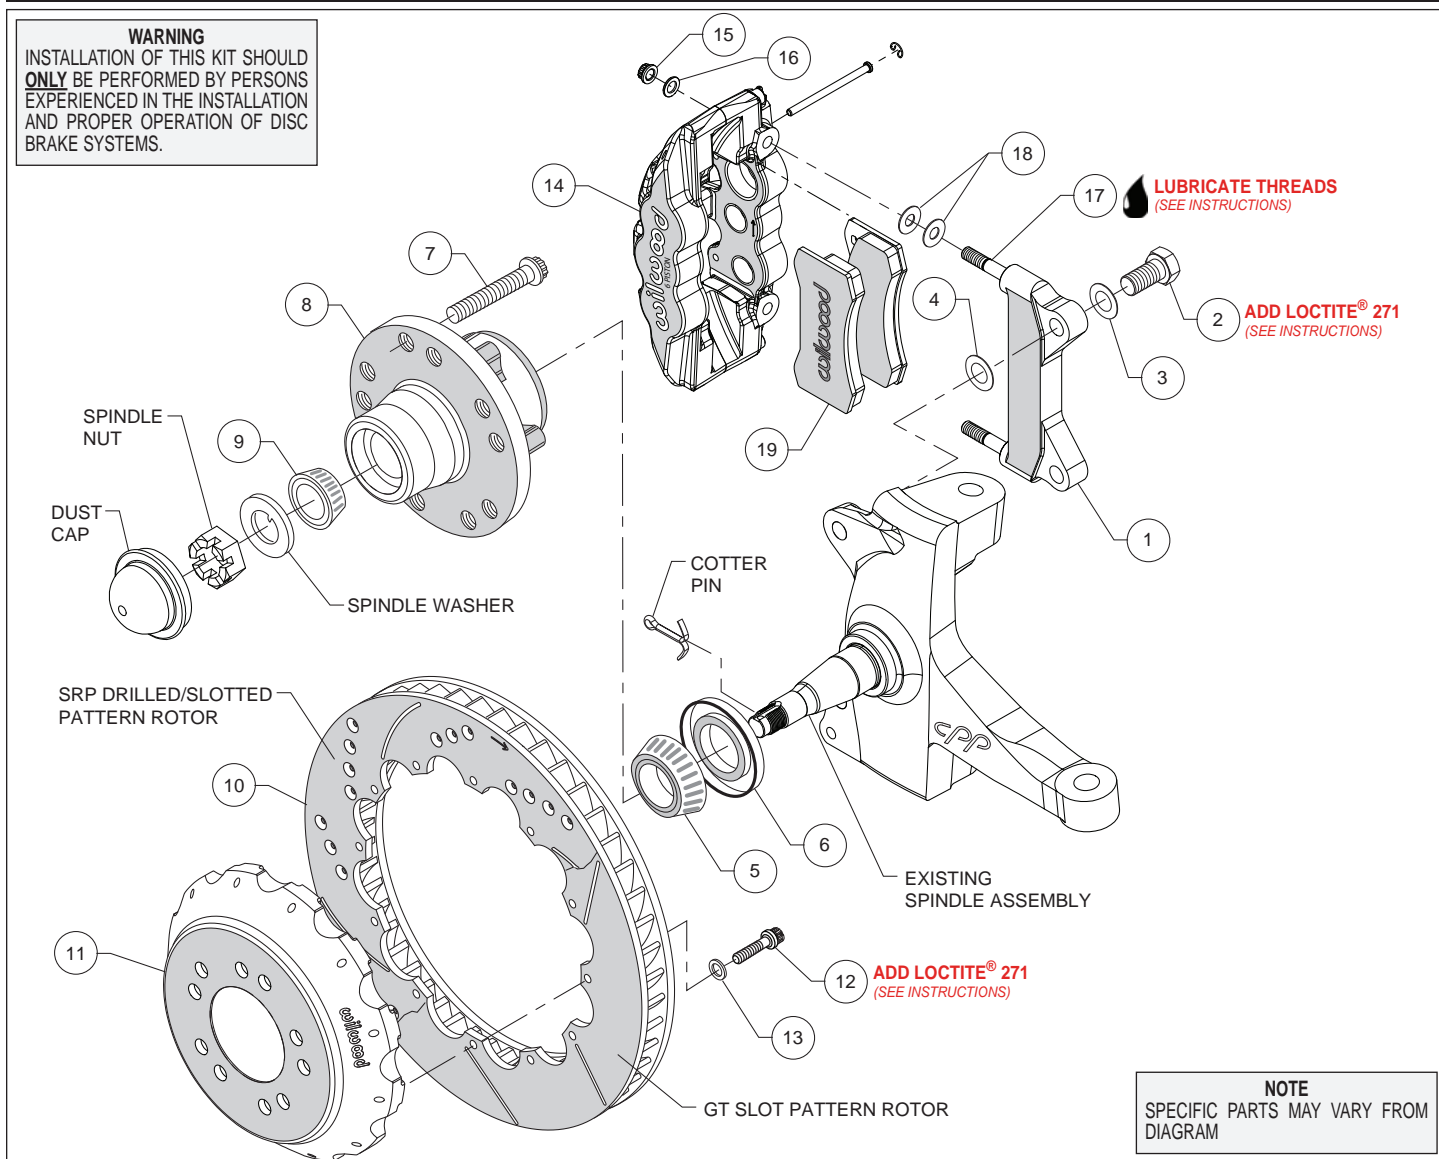
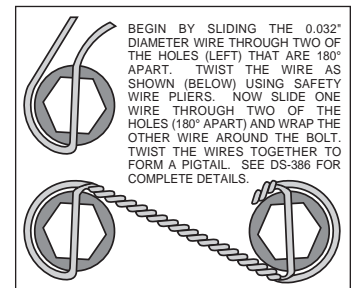

Figure 1. Typical Installation Configuration
Figure 3. Safety Wire Diagram
### Assembly Instructions (numbers in parenthesis refer to the parts list and Figure 1 on the preceding pages):
- The caliper mount bracket (1) should initially be installed with clean, dry threads on the mounting bolts. Orient the bracket, as shown in Figure 1, and Photo 1, and install using bolt (2) and washer (3). Initially place one .024" thick shim (4) on each bolt between the bracket and upright, Figure 1. Temporarily tighten the mounting bolts. **NOTE: The bracket must fit squarely against the mount bosses on the upright.** Inspect for interference from casting irregularities, machining ridges, burrs, etc. Later, after the caliper alignment has been checked, the mount bolts will be secured using red *Loctite*® 271.
- Install wheel studs (7) into the hub (8), Photo 2. Torque to 77 ft-lb. **NOTE: There are two five lug patterns in the hub (5 x 4.75 and 5 x 5.00).** Ensure the correct hub stud pattern is being used to fit the wheel application.
- Pack the large inner bearing cone (5) with high temperature disc brake bearing grease (available from your local auto parts store) and install into the backside of the hub (8), Photo 3.
- Install the grease seal (6) by pressing into the backside of the hub (8), flush with the end of the hub, Photo 4.
- Orient the rotor (10) and the hat (11) as shown in Figure 1 and Photo 5. Attach rotor to hat using bolts (12) and washers (13). Using an alternating sequence, apply red *Loctite*® 271 to the threads, and torque to 155 **in-lbs**. For an added measure of security, the bolts may be safety wired using standard 0.032 inch diameter stainless steel safety wire as shown in Figure 3. Refer to Wilwood's data sheet DS-386 (available at [www.wilwood.com/Pdf/DataSheets/ds386.pdf](http://www.wilwood.com/Pdf/DataSheets/ds386.pdf)) for complete safety wire installation instructions.
- Pack the small outer bearing cone (9) with high temperature disc brake bearing grease and install into hub (8). Slide the hub assembly onto the spindle. Secure using spindle washer and spindle nut, Photo 6. Adjust bearings per OEM specifications. Install a new cotter pin.
- Press the dust cap into the hub (8).
- Slide the hat/rotor assembly (10/11) onto the hub (8). **NOTE: The hat must fit flush against the hub face or excessive rotor run out may result.**
- NOTE: This kit contains distinct right and left hand calipers that must be mounted in a specific direction, as described below.** Lubricate the caliper mounting studs (17) with lightweight oil. Initially place two .030" thick shims (18) on each stud as shown in Figure 1 and Photo 7. Mount the caliper (14) onto the bracket
(1) using lock nuts (15) and washers (16), Figure 1. Ensure that the caliper is mounted so that the largest pistons are at the rotor exit end of the caliper, in relation to the direction of rotor rotation. Temporarily tighten the lock nuts and view the rotor through the top opening of the caliper. The rotor should be centered in the caliper, Photo 8. If not, adjust by adding or subtracting shims (4) between the bracket and the upright. Always use the same amount of shims on each of the two mounting bolts. Once the caliper alignment is correct, remove the bracket mounting bolts one at a time, apply red *Loctite*® 271 to the threads, and torque to 120 ft-lbs.
- Remove the two pad retaining pins from the caliper (14) by carefully popping out the pin retaining clips and sliding out the pins. Insert the brake pads (19) into the caliper from the bottom, Figure 1 and Photo 9. With the friction material facing the rotor, secure the brake pads in place with the pad retaining pins and clips, Photo 10. Reinstall the caliper onto the caliper mounting bracket and temporarily tighten the lock nuts. Check that the top of the brake pad is flush with the outside diameter of the rotor, Photo 11. If not, adjust by adding or subtracting shims (18) between the caliper and the bracket. After the caliper pad height is set, torque the caliper lock nuts (15) to 47 ft-lb.